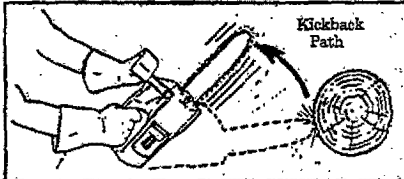

Figure 1
2. Never let the moving chain at the tip of the guide bar contact any object. Figure 1.